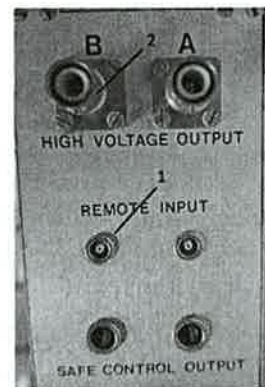

Figure 1: Rear panel overview.
1. Apply a  $-0.9$  V ECL enable signal to the Remote Input (Fig. 1, No. 1) of the channel. Voltage output from the channel will *be not be* ~~suppressed~~ without this signal. *available*
2. Connect the load to the high-voltage output terminal (Fig. 1, No. 2) of the selected channel.